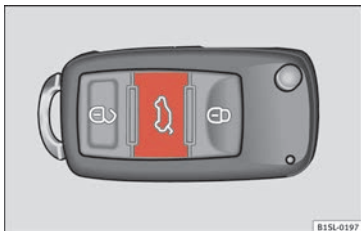

Fig. 106 On the vehicle key: button to unlock and open the boot hatch.
- Press the button on the vehicle key » **Fig. 106** for about one second to unlock the boot hatch.